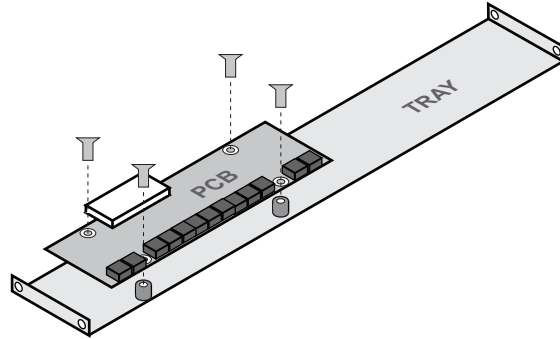

Figure 2.2 *Installing the Breakout PCB on the Rack Tray*
1. Position the Breakout PCB atop the screw posts on the tray. Refer to **Figure 2.2**.